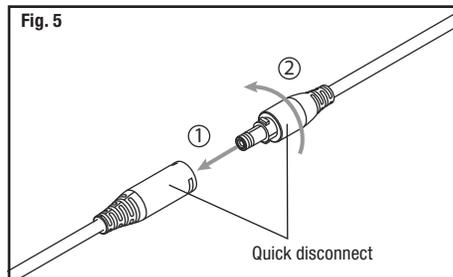

Fig. 5
5. Connect driver enclosure to engine by connecting the quick disconnect and securing the disconnect enclosure (Fig. 5).